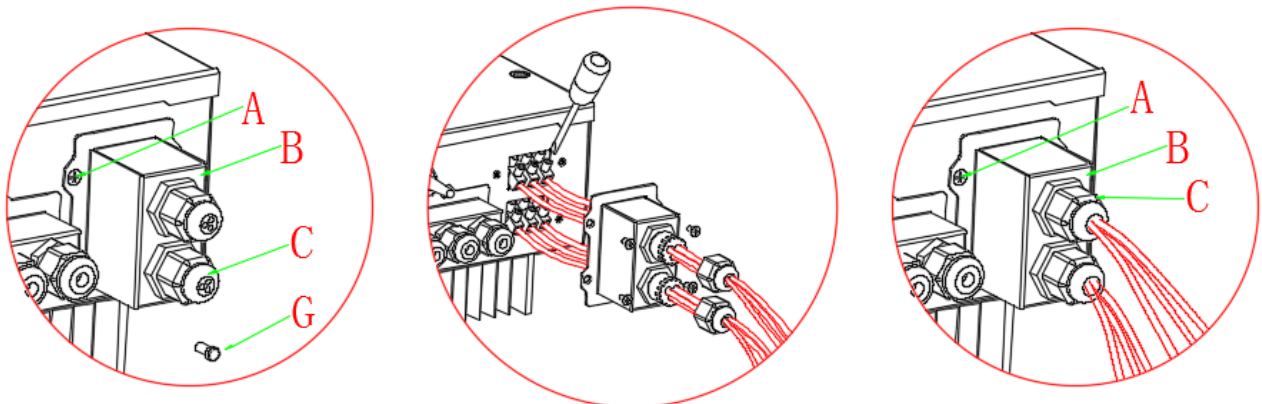

Fig. 14 Grid & Load connection
Step 1: Loosen 4 screws (part A) using a screwdriver (fig. 14)
The connection procedure of LOAD port is the same as grid connection (Fig. 14).